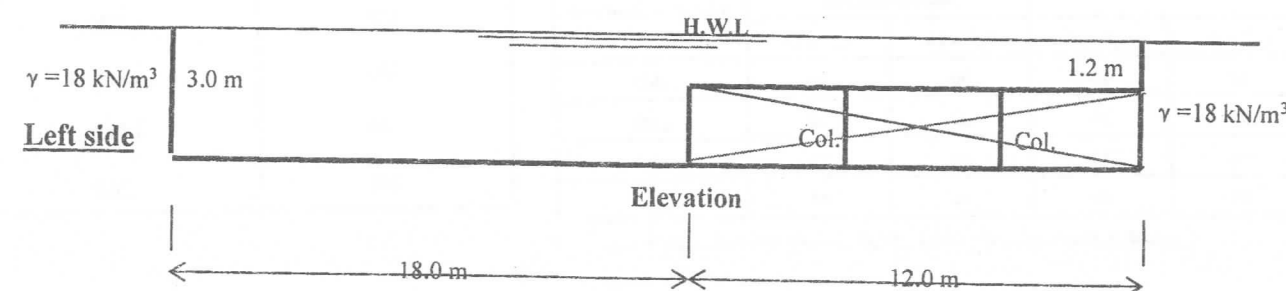

Fig. 4
B. For the shown swimming pool (Fig. 4) which is constructed on medium clay with net bearing pressure equal to 150 kN/m², the pool width is 12 m. A pump room and storage area are required under the right side of the pool. two columns are used to support the floor on the right side. It is required to: (18 marks)